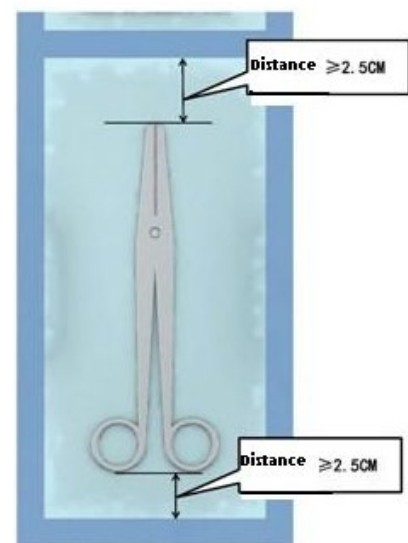

Figure 6
2. Select matching sterilization bags for the contents. Turn print off and seal one edge of the bags. Then put items into bags. In accordance with *WS310.2-2009*, the sufficient distance between the seal edge and the inside content must be no less than 2.5cm (Figure 6).